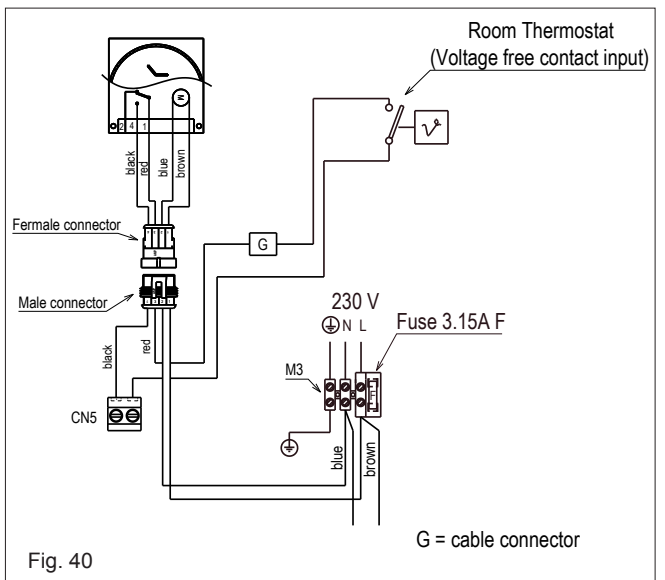

Fig. 40
- low voltage (24Vdc) room thermostat (CN5 fig. 40)